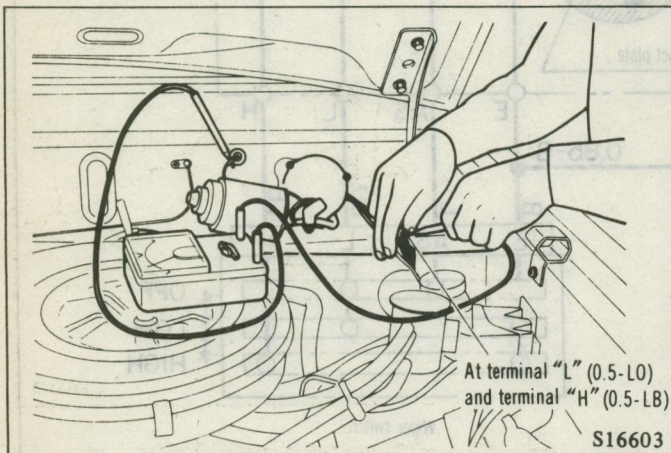

Fig. 139 Motor Terminal Voltage Check
(1) If motor will not run on high speed, put wiper switch in high position and connect a test lamp between motor Terminal "H" and ground (See Fig. 139)
If motor will not run on low speed, put wiper switch in low position and connect a test lamp between motor Terminal L and ground (See Fig. 139)